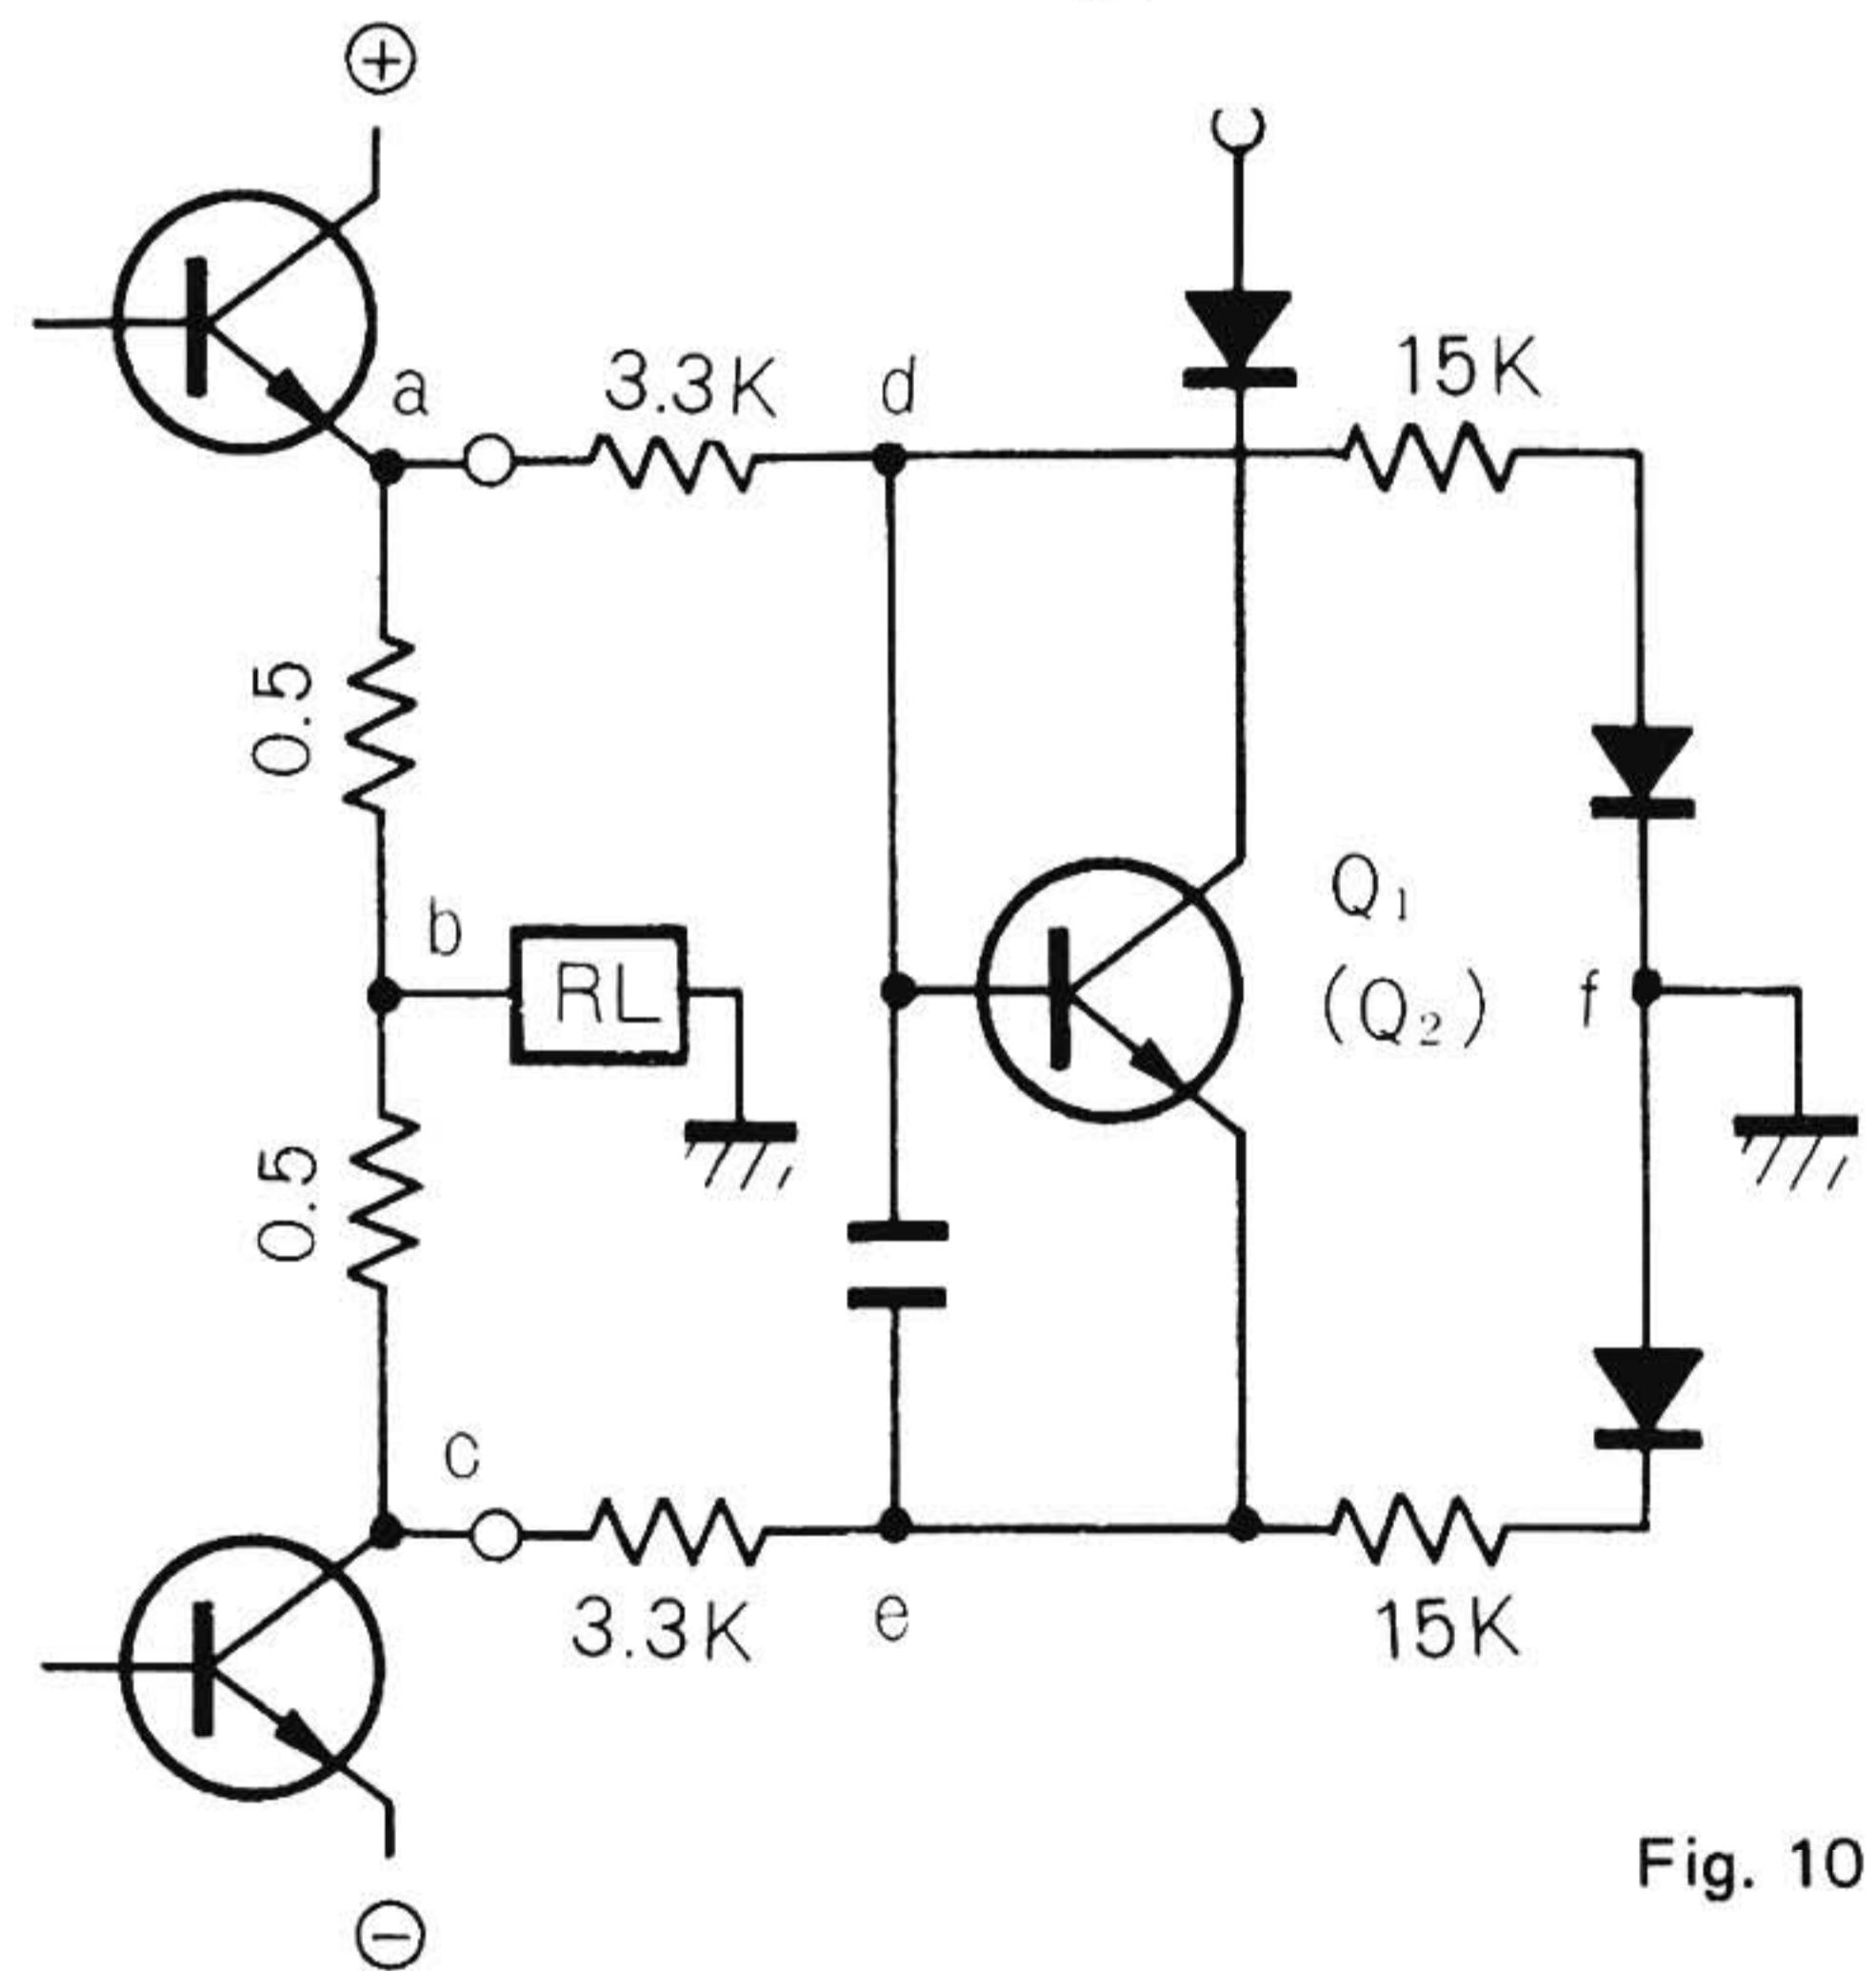
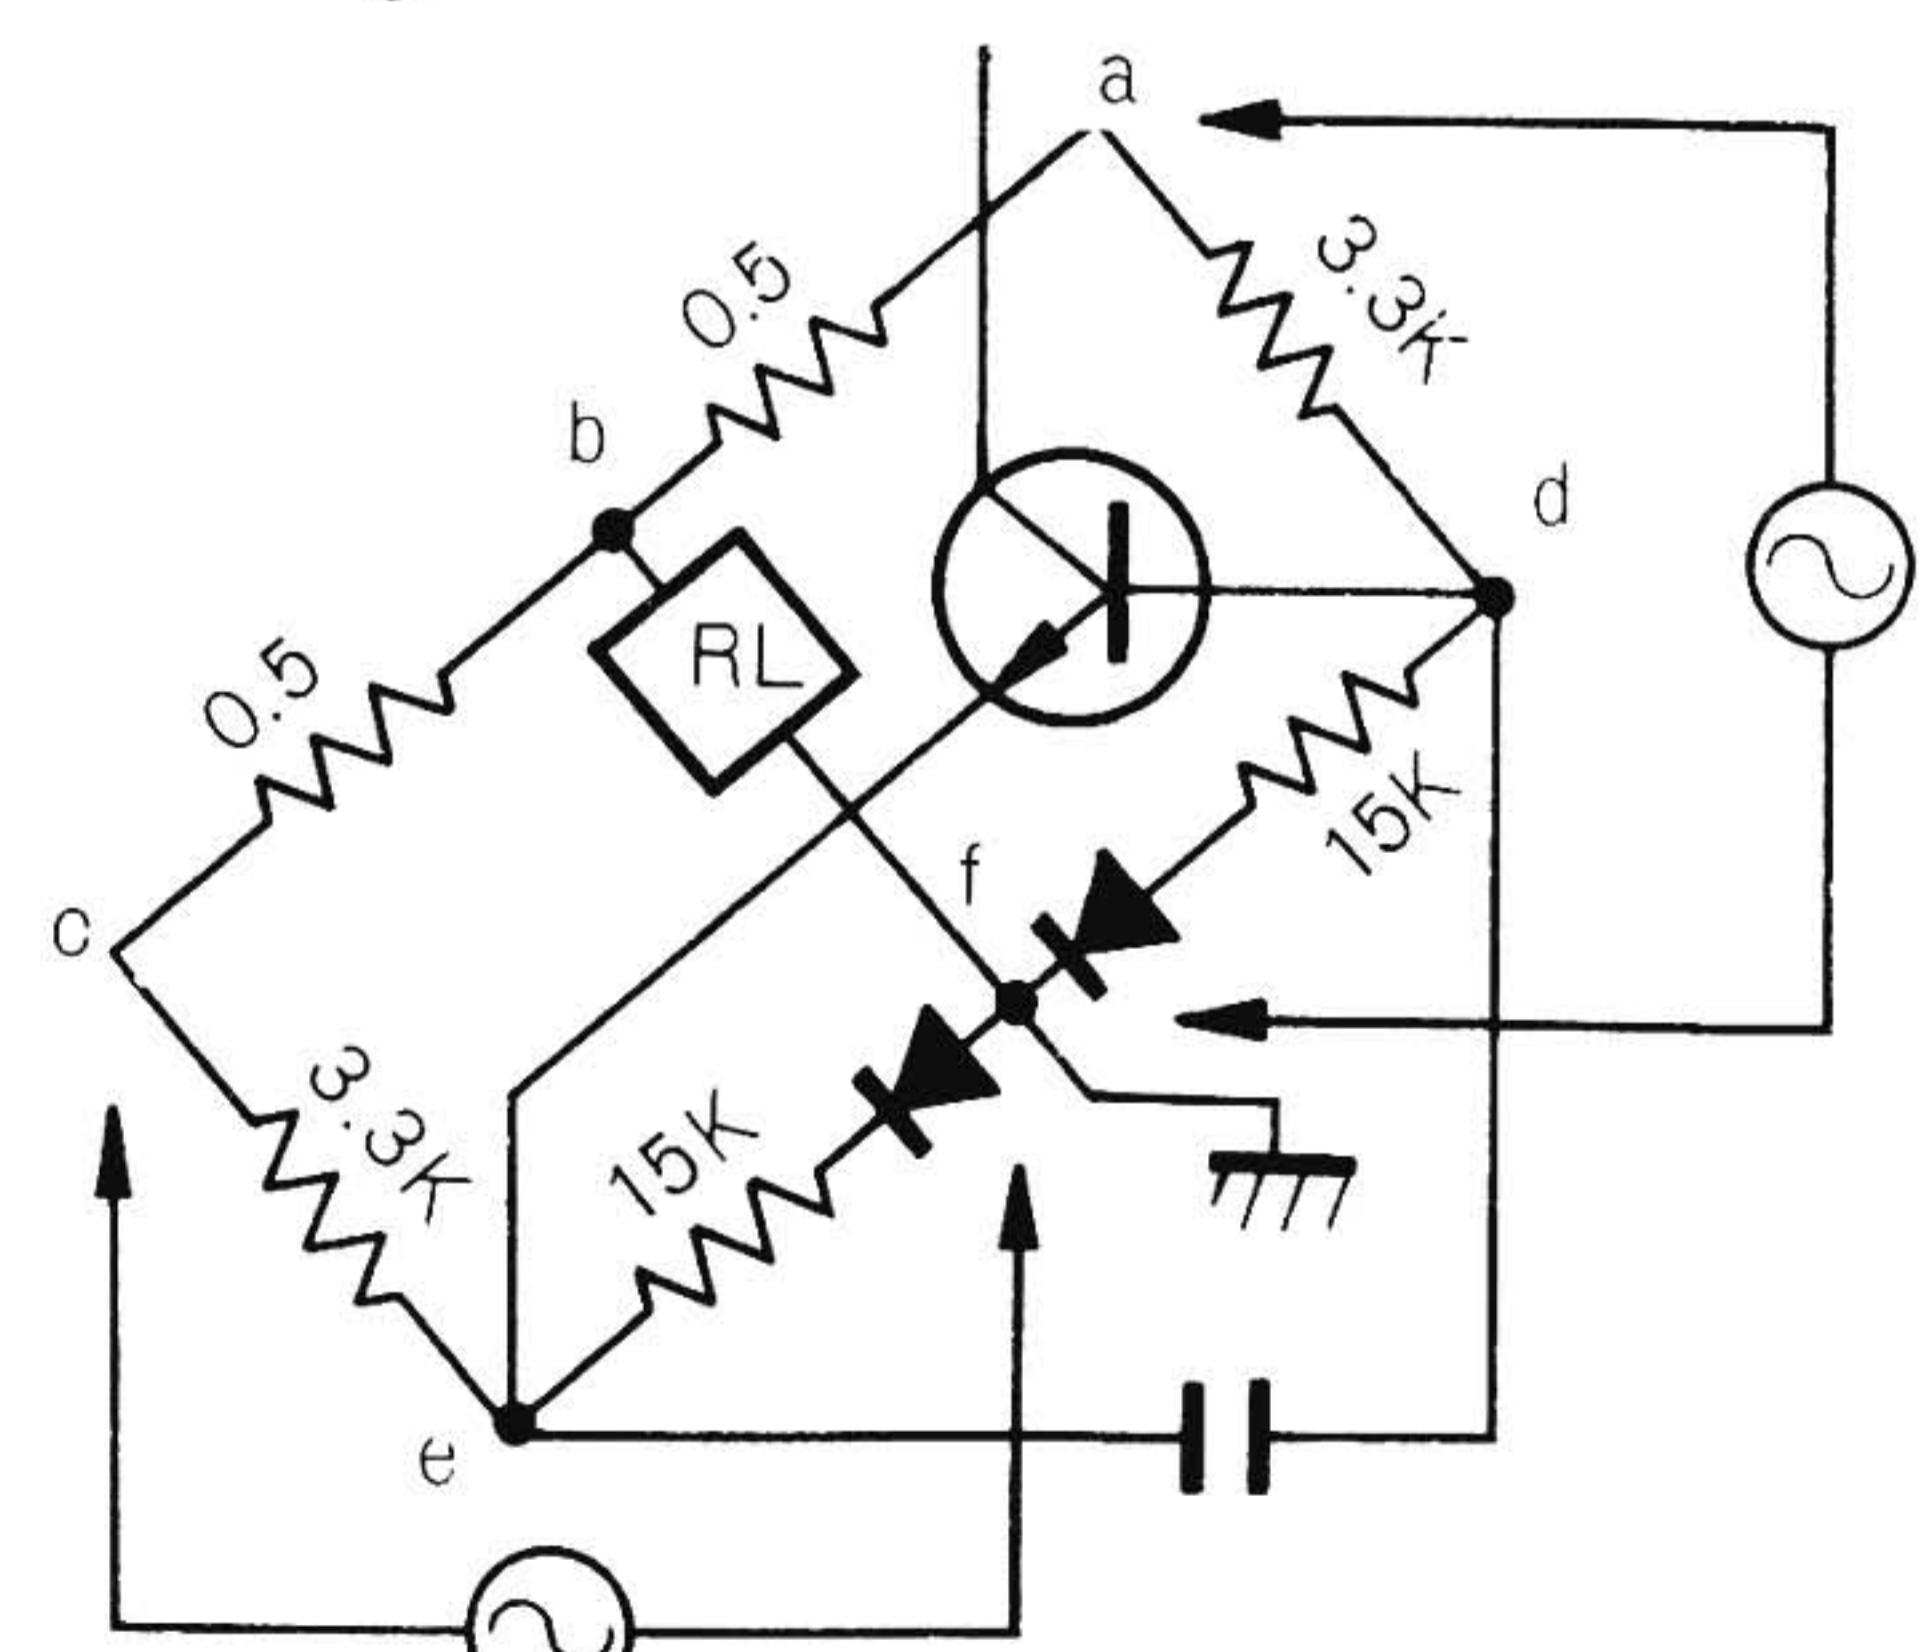

Fig. 10
Fig. 11
Fig. 10 shows the detector circuit including the chained power transistors and the output load (RL).
Next, let us examine the condition with a signal supplied and the chained transistors delivering power into the RL RL (see fig. 11).
equal phase are generated between points ④ and ⑤ in figs. 10 and 11. Therefore, no potential difference exists between ④ and ⑤, the voltage between base and emitter of Q1 is 0V, and Q1 is cut off in the negative half cycle. Points ④ and ⑥ are 0V, as above. If, however, RL drops to 2 ohms or below, the bridge circuit shown in fig. 11 becomes unbalanced within half a signal cycle, a voltage is applied between base and emitter of Q1, Q1 becomes conductive, and Q5 is triggered.